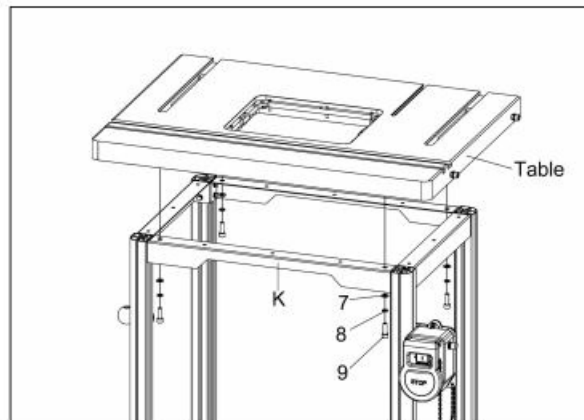

Fig.11
- **h.** After assembling the legs and top brackets to the base platform, now it is time to attach your router table. Set the router table on to the top bracket (K) and use the provided fasteners (#7, #8, and #9) to secure the router table as shown in Fig.11.